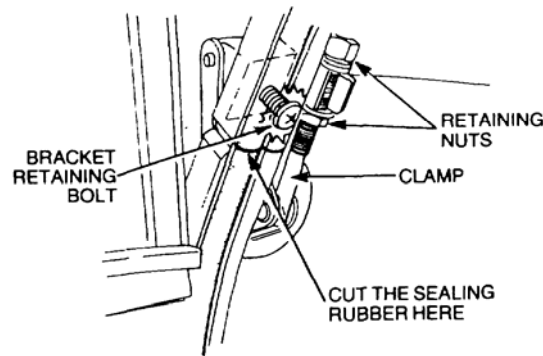

Figure 12 Removal of the Windscreen Frame Clamp
- o.** Remove the locknuts and washers from the clamps securing the windscreen frame to the firewall (Figure 12).